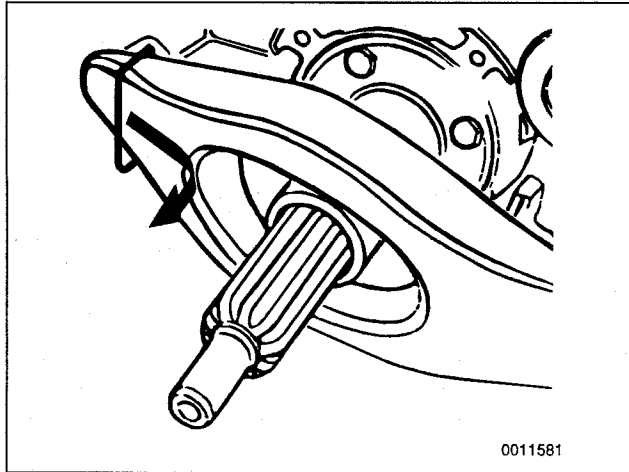

Fig. 5. Remove clutch release lever by pulling away from spring clip in direction of arrow.
3. Remove clutch release lever by sliding it out from under spring clip. See Fig. 5.